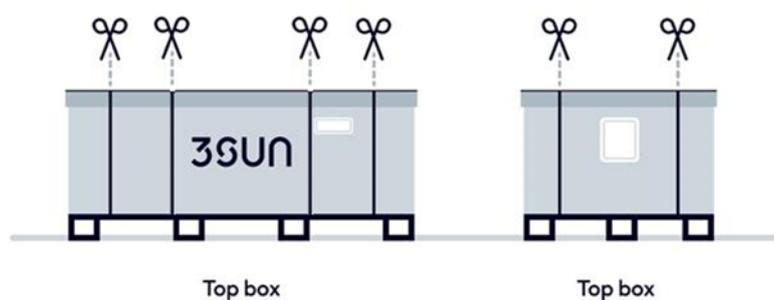

Figure 21: Top Box, outer box straps.
- a) Cut the outer box straps (Figure 21)